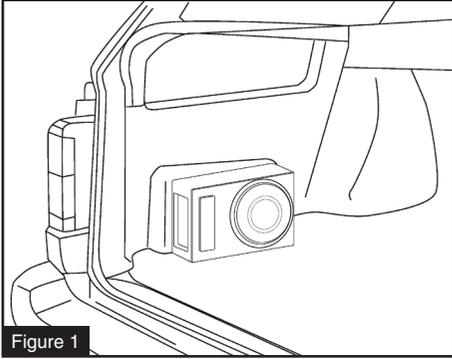

Figure 1
2. Decide the best location possible that suits your automobile and space available. The best and most secure location for optimum sound quality is behind the rear seats, in the trunk floor (see Figure 1).